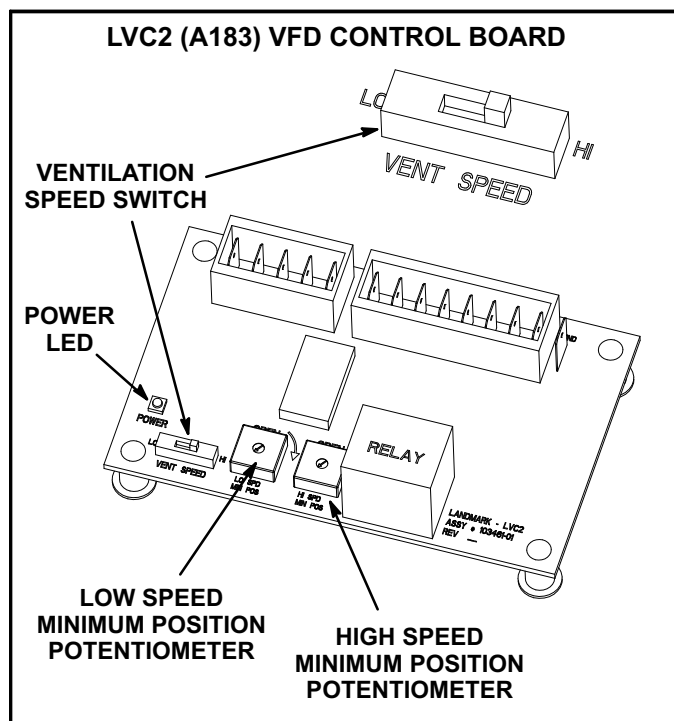

FIGURE 29
To save energy during ventilation, the blower speed can be set to low. This is accomplished by changing the ventilation speed switch on the VFD control board to "LO". See figure 29.
To maintain required minimum ventilation air volumes when the unit is in the occupied mode, two minimum damper positions must be set. A high and a low speed potentiometer are provided on the VFD control board to adjust minimum damper position. See figure 29.
- 5- Check the power LED on the board. See figure 29.
- 8- When LVC2 24VAC thermostat blower (G) input and 24VDC power are present, check the LVC2 low and high speed outputs. The LVC2 uses inverse logic to enable the blower; 1VDC will be read at the enabled blower speed terminal. See table 15.